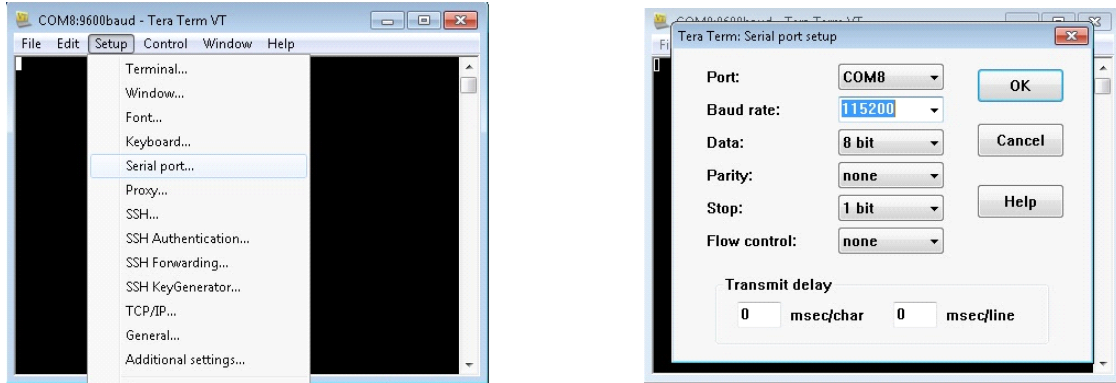

Figure 4-2: Serial Port Setup
- Set the *Setup/Serial port setup* **Baud rate** to **115,200** and click **OK** (see Figure 4-2).